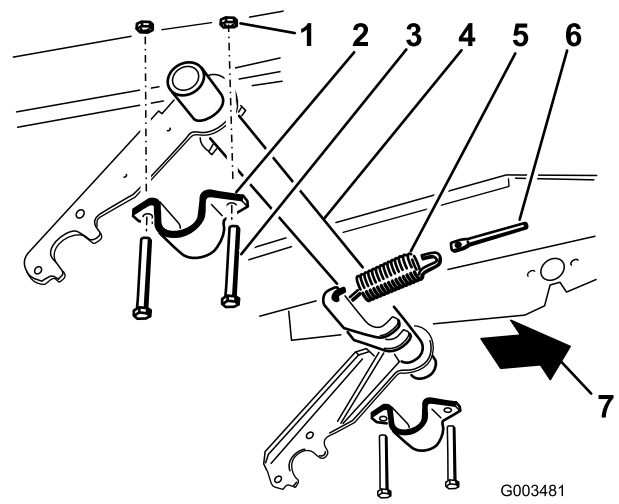

Figure 5
2. Loosely install the pivot tube bracket onto the right side (Figure 5).
3. Slide the right-hand side of the pivot tube into the right side pivot tube bracket (Figure 5).
5. Raise the left-hand side of the pivot tube to the frame and install it with a pivot tube bracket, 2 bolts (3/8 x 3 inch), and 2 locknuts (3/8 inch) (Figure 5).
1. Connect the extension spring to one of the spring levers on the pivot tube and to the spring rod (Figure 5).